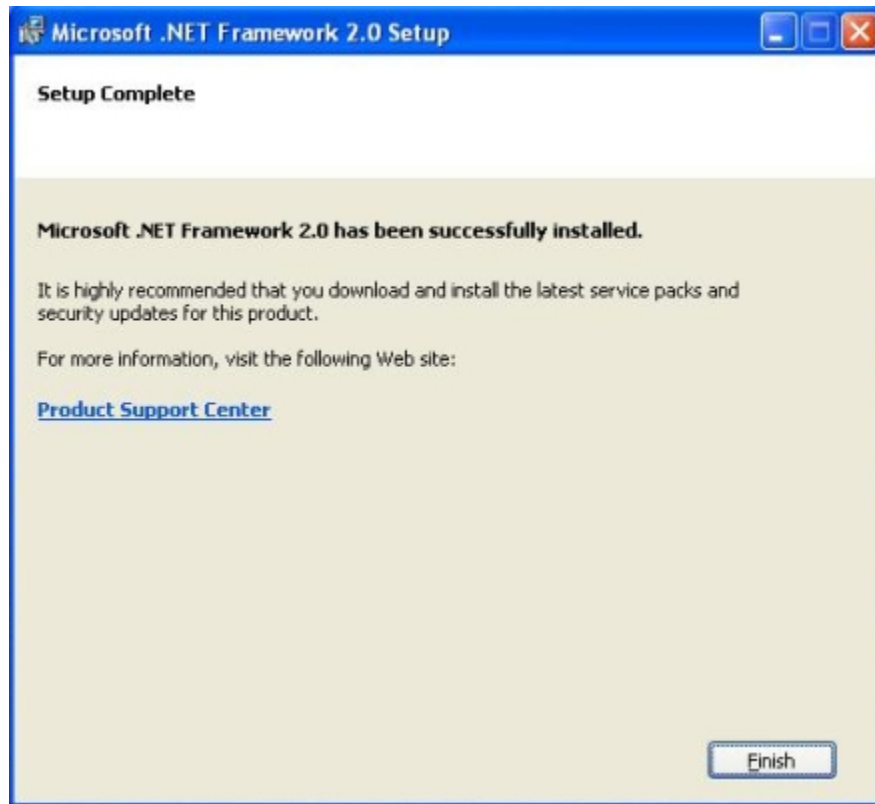

Figure F. 6 - .NET Framework 2.0 Setup Complete
6. When the installation completes successfully, Figure F. 6, click **Finish** to continue with the installation.